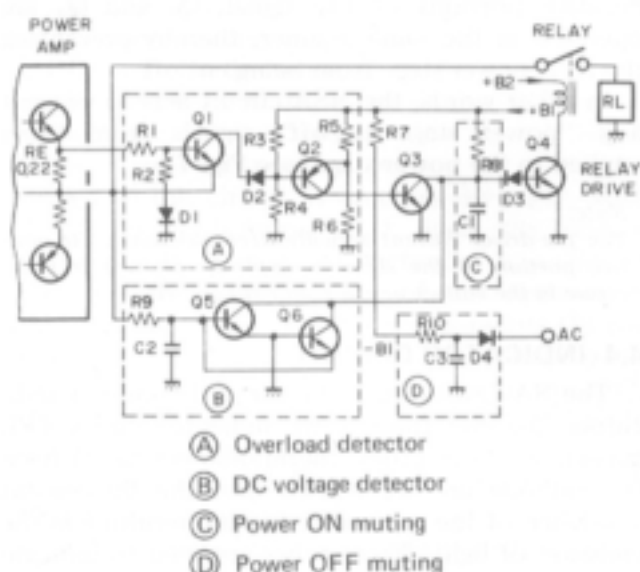

Fig. 9 Protection circuit
With reference to Fig. 9 when the power supply is turned on, Q_3 turns off due to $-B_1$ (The time constant of the $-B_1$ circuit is very small.). If there is no input (DC) on Q_5 and Q_6 , they will be off, and the timing capacitor C_1 charges up through R_8 and thus Q_4 turns on. When Q_4 conducts, the relay operates, and the output muting on the power amplifier will be removed.